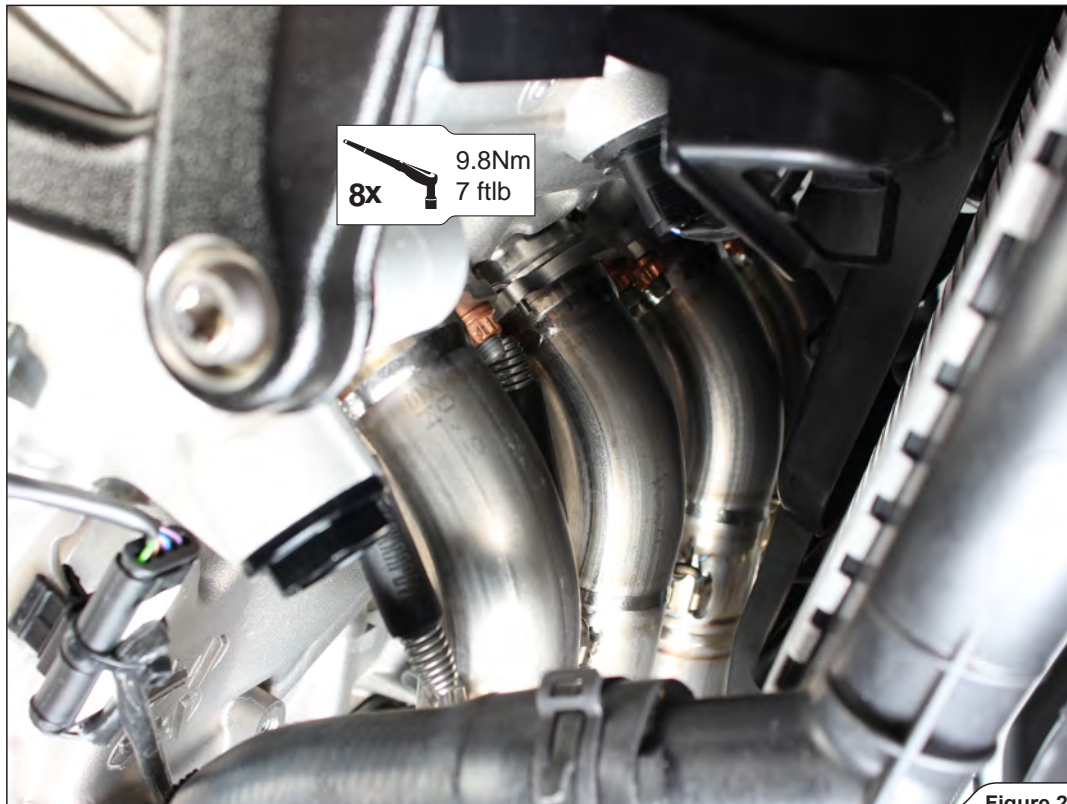

Figure 29
3. Insert the headers into the sleeves, attach the springs and tighten the flanges to specified torque (**Figure 29**).